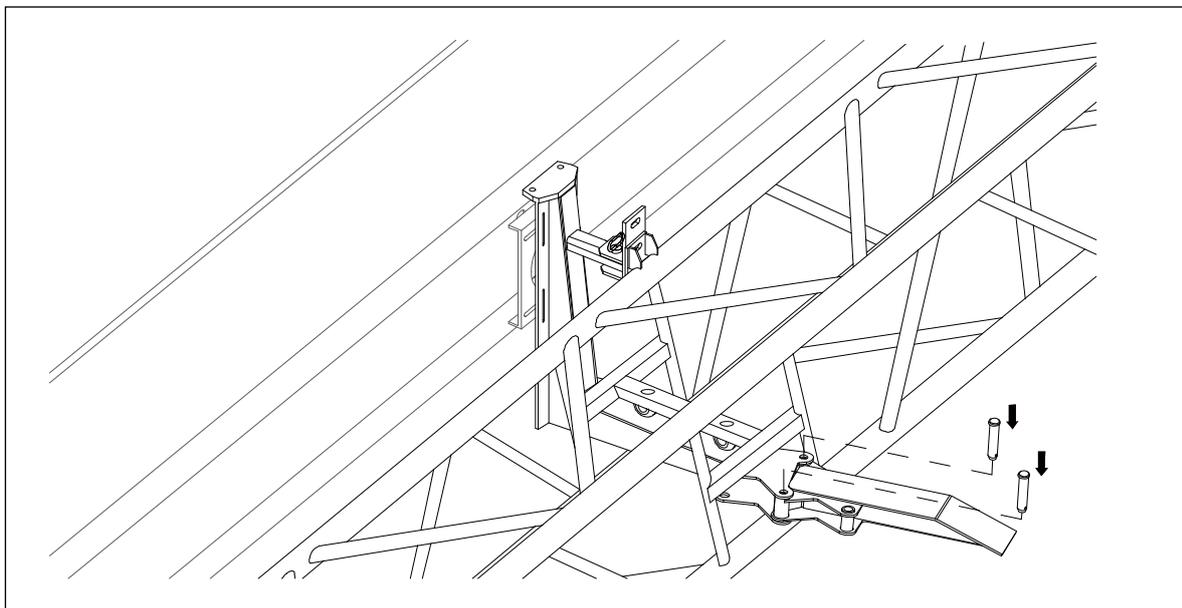

Figure 5-27 Installation of the removable support
b) Install the removable support onto the fixing bracket, as shown in Figure 5-27.